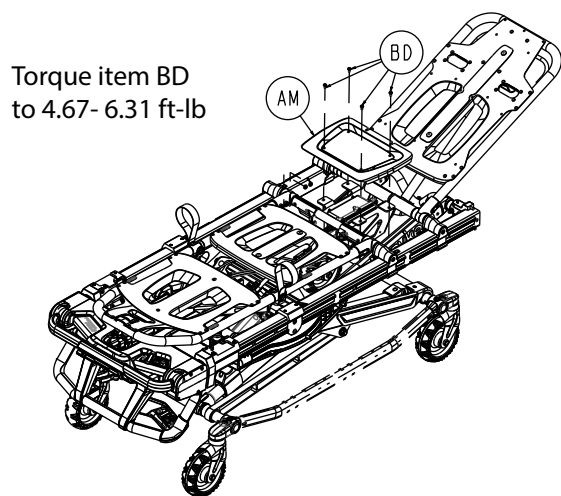

Figure 56 – Remove the seat skin screws
5. Using a T25 Torx driver, remove the four pan head thread rolling screws (BD) that secure the seat skin (AM) to the cot (Figure 56). Remove and save the seat skin. Save the screws.